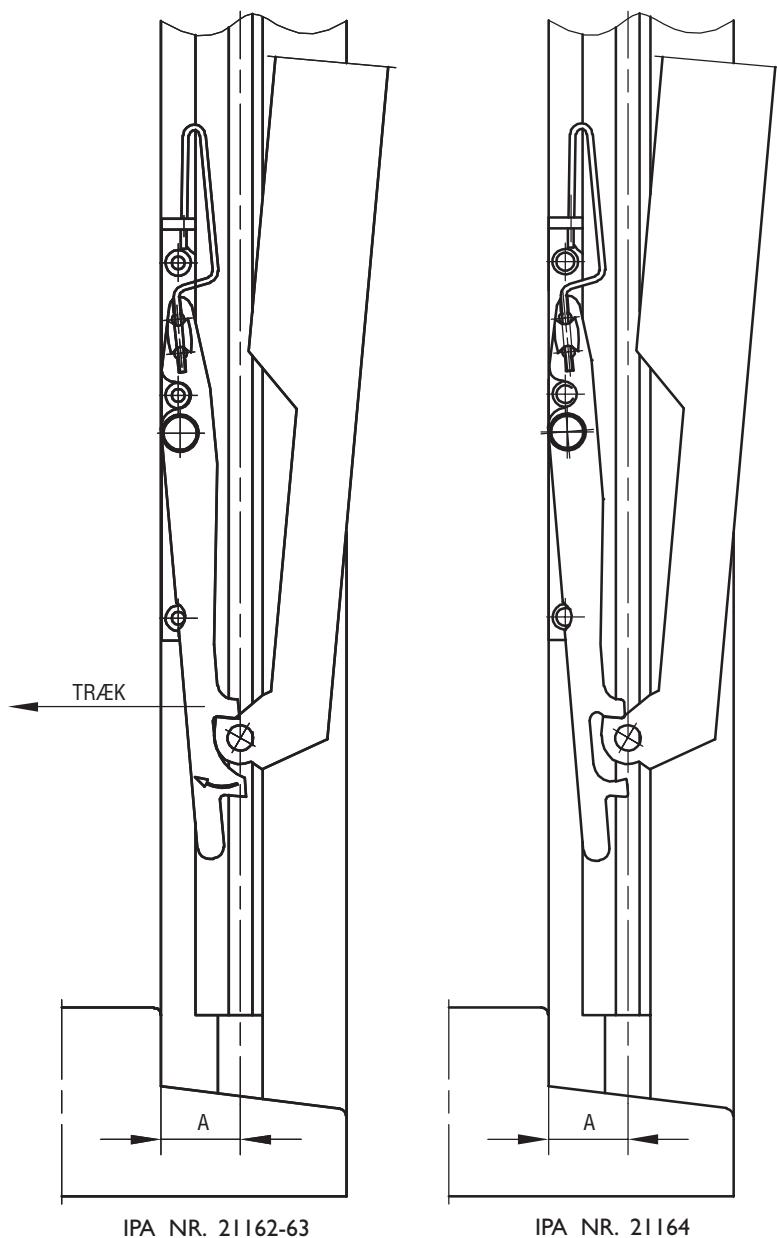

FIG. 1
3. SOM PUDSESIKRING SKAL ØVERSTE HAK ALTID ANVENDES, SE FIG. 1. NEDERSTE HAK KAN ANVENDES I FORBINDELSE MED ÅBNINGSBEGRÆNSNING, HVOR SMÅ ÅBNINGER ØNSKES.